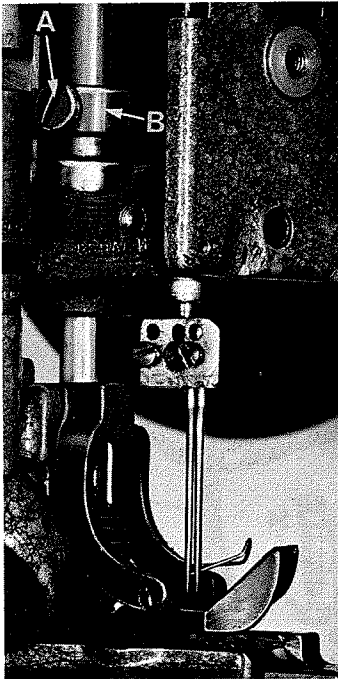

Fig. 10
The presser foot should be adjusted to clear the throat plate 1/8 inch before the upper feed roller mechanism begins to rise. Loosen set screw (A, Fig. 10) in presser bar lifter and guide (B), raise or lower guide as required to attain the specified point at which the feed roller begins to rise. Retighten set screw (A).